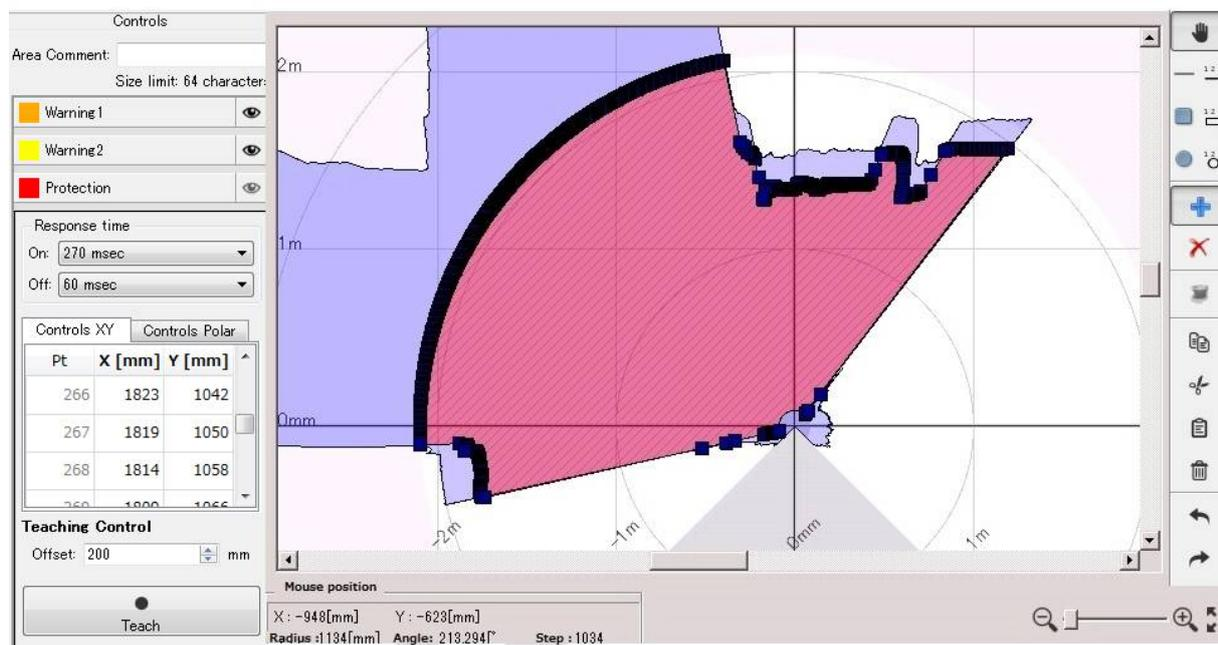

Figure 7-44 Area configured by teaching
- Obtaining the background data starts when the "Teach" button is clicked. Configured area will resemble the UAM's background. (Figure 7-44). When configuring the protection zone, if the background is not within the maximum detection distance it is set to maximum detection distance of UAM. In case of warning area, if there is no background within 20m from UAM it will be set to 20m.